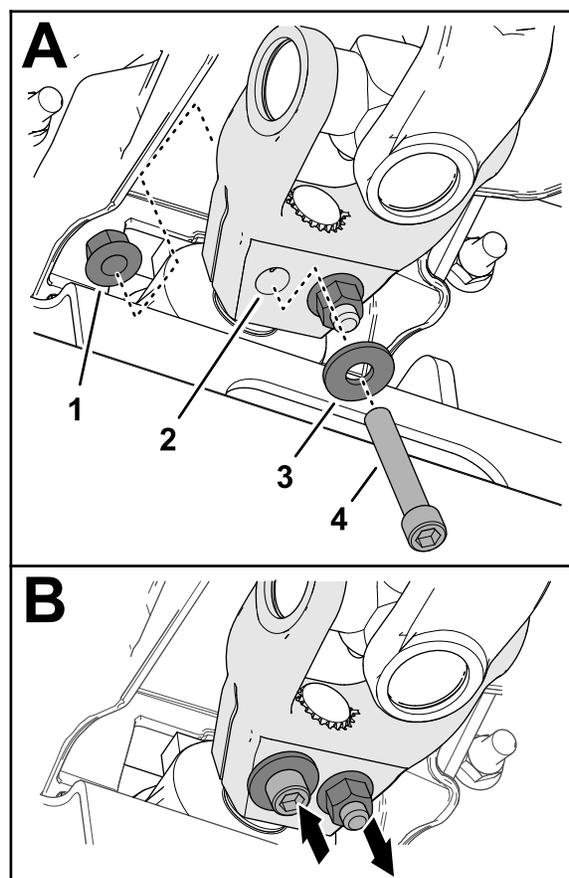

Figure 18
6. Assemble a socket-head capscrew (3/8 x 2-1/4 inches) through a washer (3/8 inch) and the hole in the driveshaft yoke (**Figure 18**), and secure the capscrew with a flange-locknut (3/8 inch).
(Figure 18), and secure the capscrew with a flange-locknut (3/8 inch).